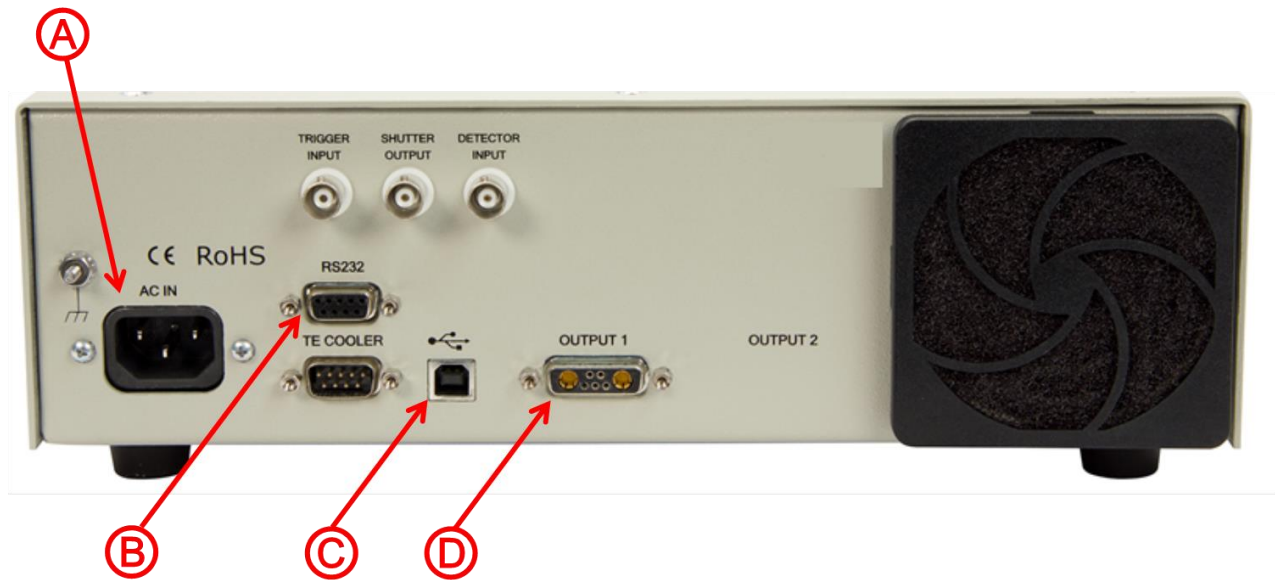

Figure 2 OPS-A Power Supply Rear Panel Connections.
- H. **POWER.** This is the AC mains power switch. In the ON position as shown in Figure 2, AC power will be switched into the main circuitry of the power supply. There is no output from the power supply until the manual or external command to supply power to the lamp is received with the interlock condition satisfied.